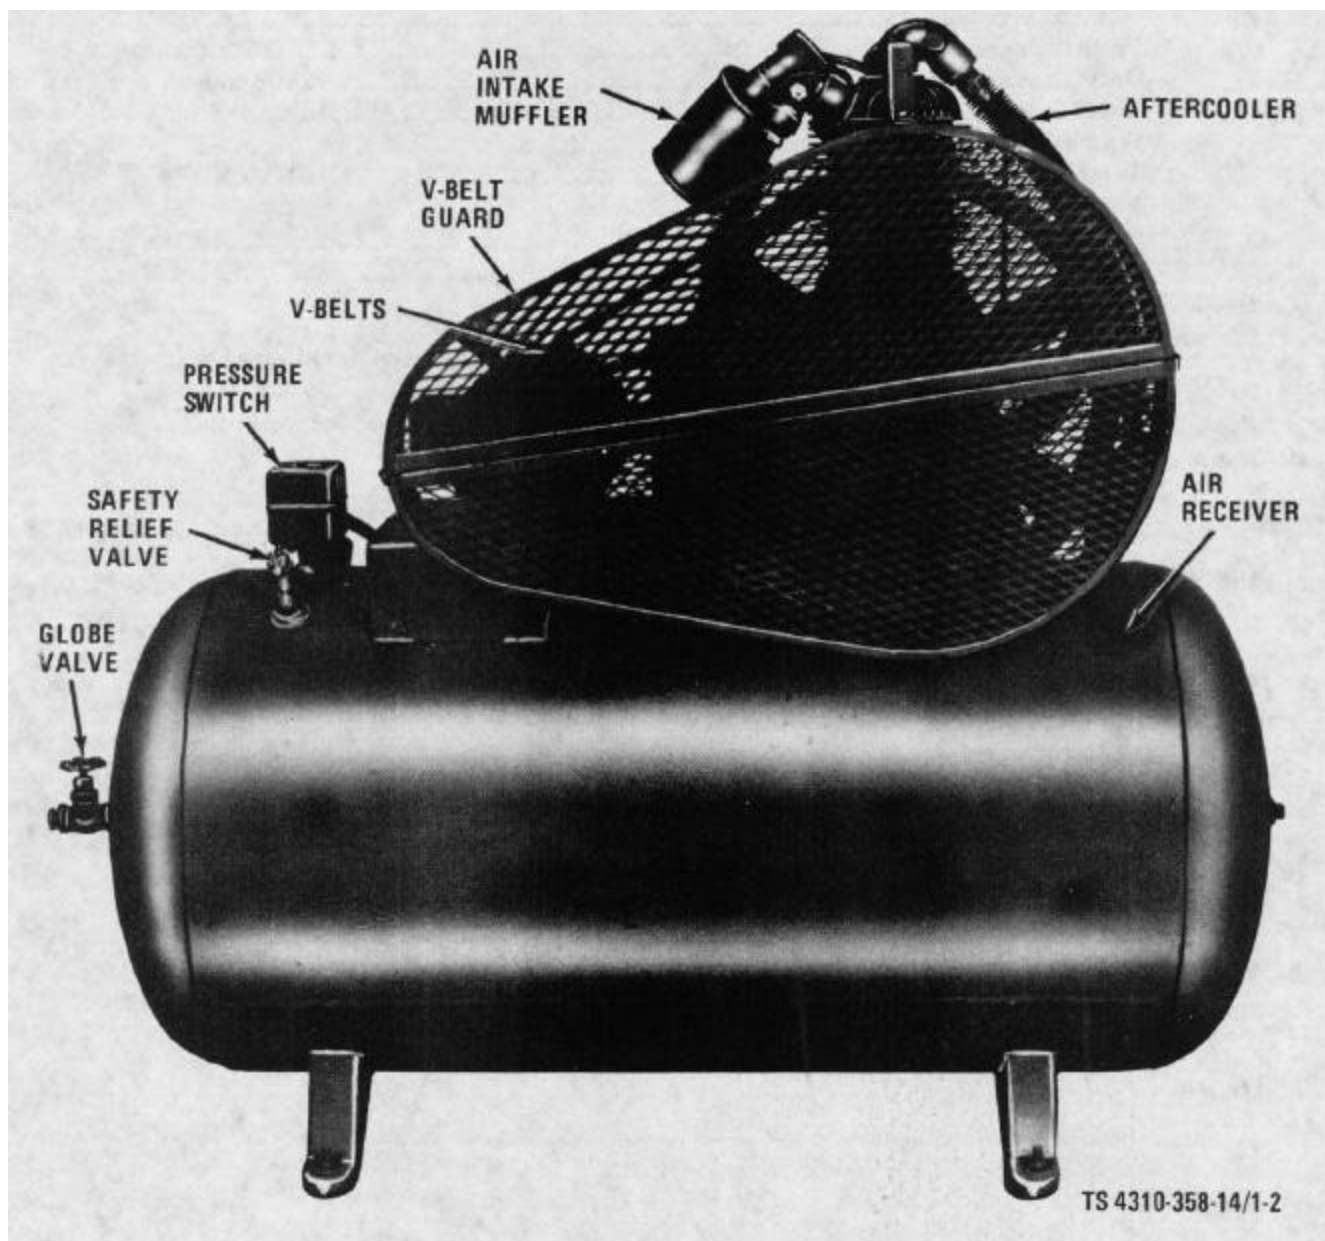

Figure 1-2. Air Compressor, left side view.
f. Safety Relief Valve. The safety relief valve (fig. 1-2) is mounted on top of the air receiver tank at the motor end. It is a preset valve that is actuated when the air receiver tank receives a pressure of 200 psi (14.06 kgs per sq cm) or more. This valve can be tripped manually by pulling up on the ring at the end. It is manually tripped to release pressure in the air receiver tank and to test the valve.
i. Pressure Switch. The pressure switch (fig. 1-2) is mounted on the top of the air receiver tank at the motor end. It automatically shuts off the motor when the pressure in the air receiver tank reaches 190 psi (13.36 kgs per sq cm). The pressure switch will automatically recycle the compressor when the pressure drops below 165 psi (11.60 kgs per sq cm).
(1) Close glove valve (fig. 1-2).